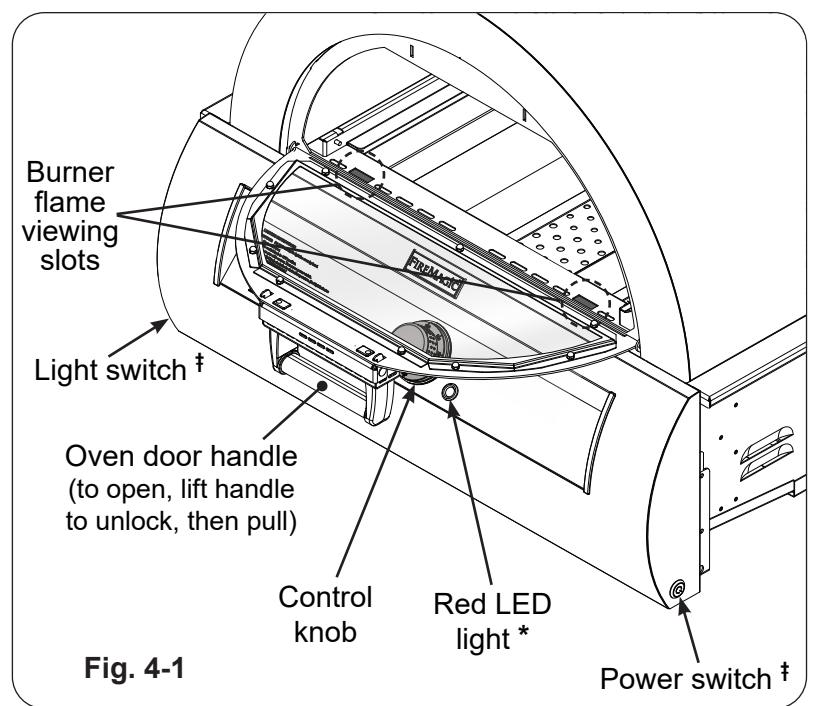

Fig. 4-1
3. Turn on the gas at its source. Then press the power switch (see Fig. 4-1).
Important: Visually inspect the burner flames via the two rectangular flame viewing slots (see Fig. 4-1).